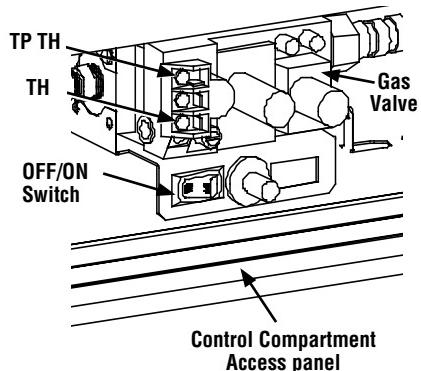

Figure 44
b. **Optional Wall Switch, Wall Thermostat Or Remote Control Receiver** - Install snap bushing (provided in Electrical Outlet Kit - See **Figure 44**) into control switch knock-out in side panel (see **Figures 12 and 13 on Pages 10 and 11**). Wire the optional control switch within the millivolt control circuit (as shown in **Figure 43**) using the 15 feet of 2 conductor wire supplied (route wires through the snap bushing to the optional control switch). Mount the optional control switch or wall thermostat in a convenient location on a wall near the fireplace.